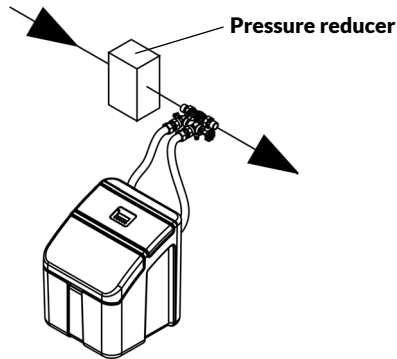

Fig. 2: Pressure reducer upstream of the water softener
**In the event of water pressure above 7 bar, a pressure reduction valve must be fitted upstream of the water softener (see fig. 2). An operating pressure of over 7 bar can lead to malfunction and failure.**